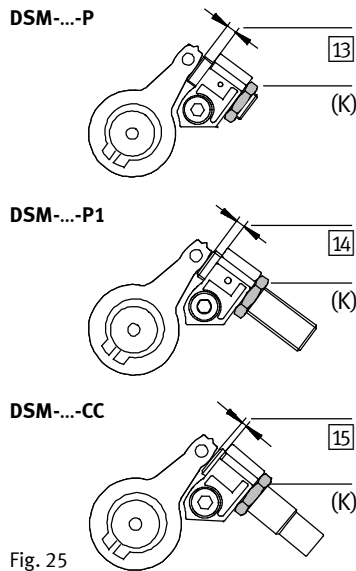

Fig. 25
2. Unscrew the locking nut (K) (Fig. 25) of the shock absorber.